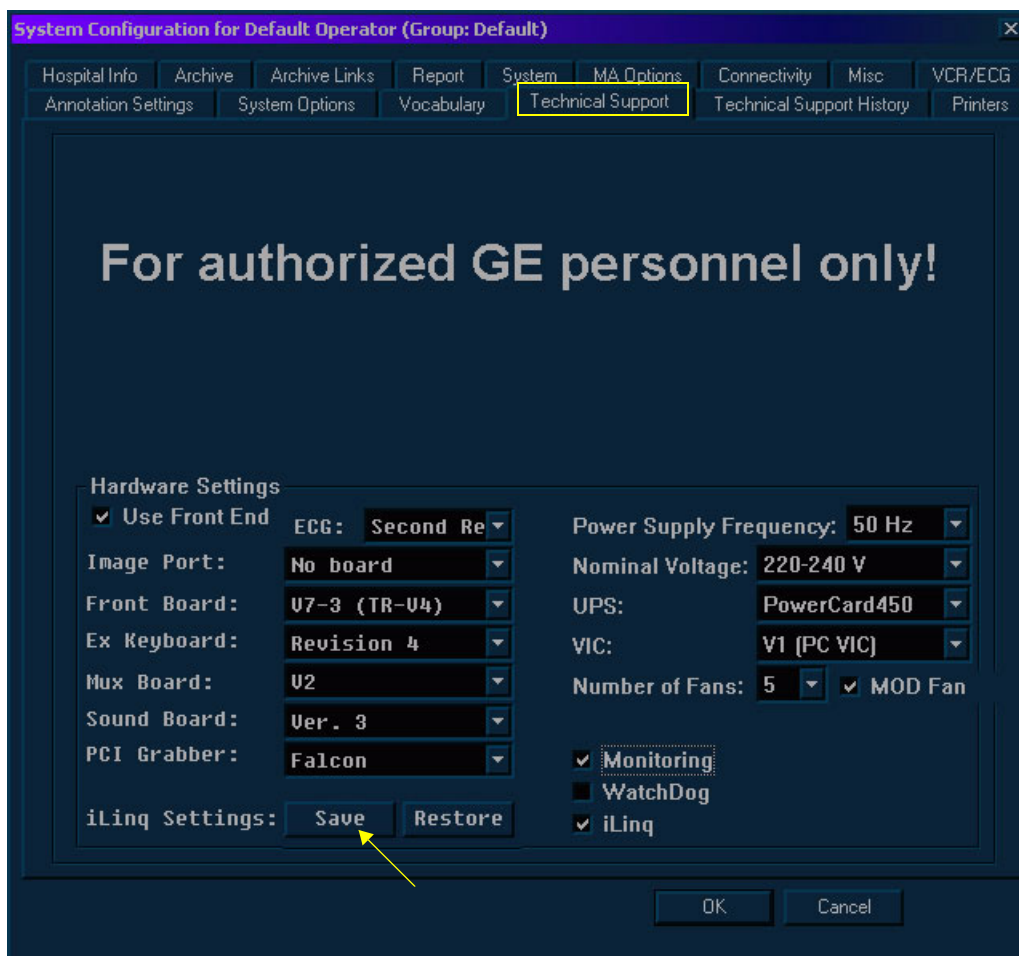

Figure 7-99 Technical Support Tab
- 1) In the System Configuration window, click on the **Technical Support** tab - see Figure 7-99 below.
- 1) From the System Configuration window (under the *Technical Support* Tab - refer to Figure 7-99, above) trackball to **iLinq Settings: Restore** and press **Select**.